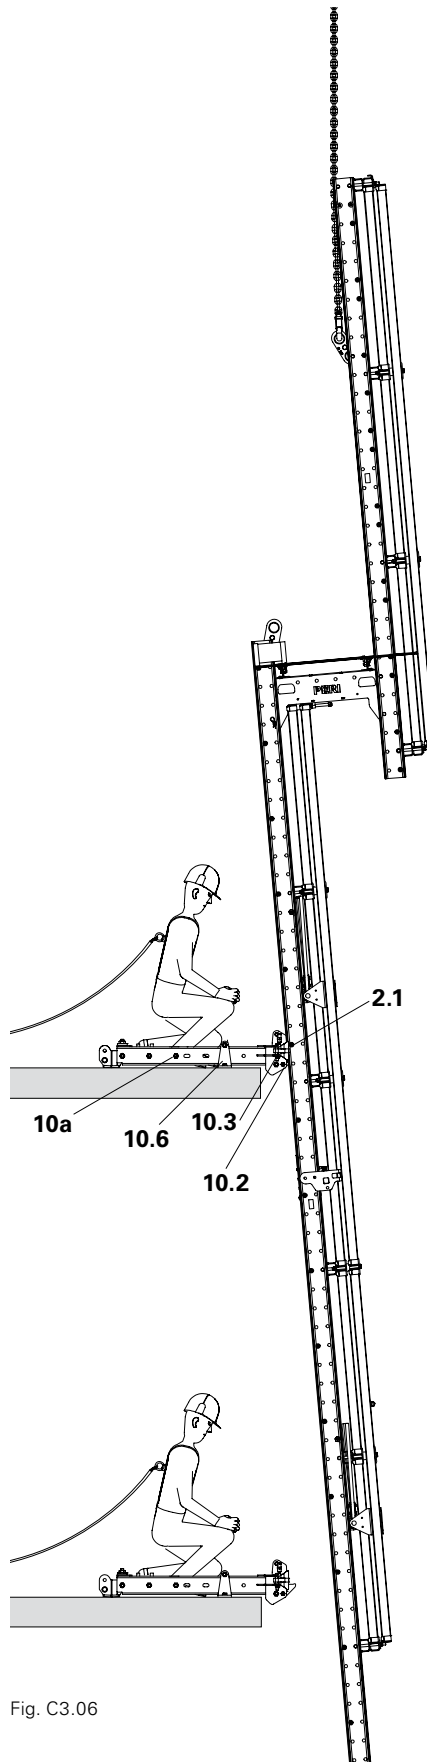

Fig. C3.06
4. Place the climbing enclosure with Spacer (2.1) on the climbing pawl (10.2). (Fig. C3.06)